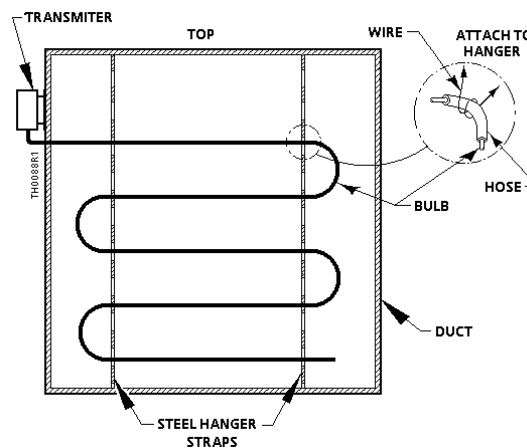

Figure 6. Typical Mounting in Large Walk-in Ducts.
Large Walk-in Ducts (Figure 6)
6. Mount the bulb in a horizontal serpentine manner. Attaching the bulb to the strap as shown in the detail in *Figure 6*.